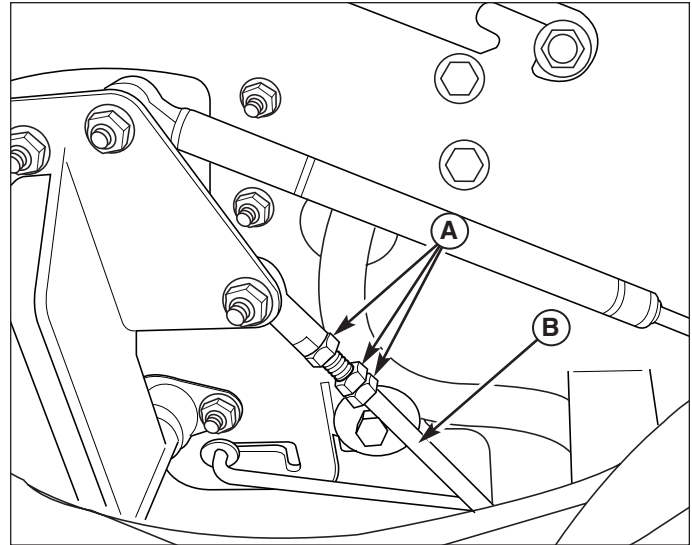

Figure 22. Return-to-Neutral Adjustment
3. Move the ground speed control levers out towards the neutral position. If the levers do not align with the notches in the neutral lock plate, it is necessary to adjust the neutral return rod (B, Figure 22).
2. There are three nuts (B, Figure 22) on the neutral return rod. The first two are to be used together to turn the neutral return rod and the third (towards the front of the machine) is used to lock the neutral return rod in place. Loosen the jam nut that locks against the ball joint (B) and turn the neutral return rod (A) to adjust. If the machine creeps forward, turn the neutral return rod **CLOCKWISE** (while standing at the rear of the machine, facing forward), if the machine creeps backward, turn the neutral return rod **COUNTER-CLOCKWISE**.
3. Lock the jam nut (B) against the ball joint when neutral is achieved.